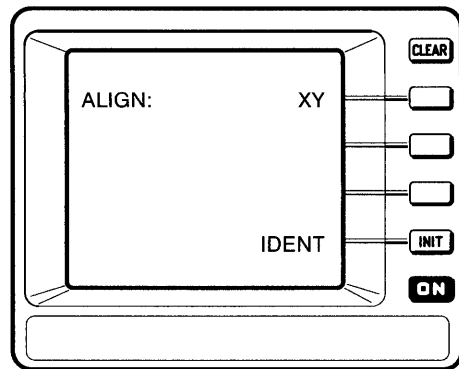

Figure 3-15: XY Alignment Menu
- Step 2:** Press the menu button next to **ALIGN**. This calls up the XY Alignment Menu as shown in figure 3-15.